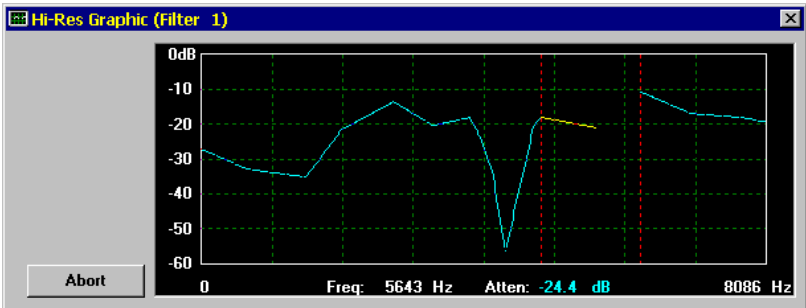

Figure 4-49 Hi-Res Edit In Progress
8. Now, draw in the new portion of the filter curve using mouse clicks as in Step 4, above, roughly as shown below (Figure 4-49).